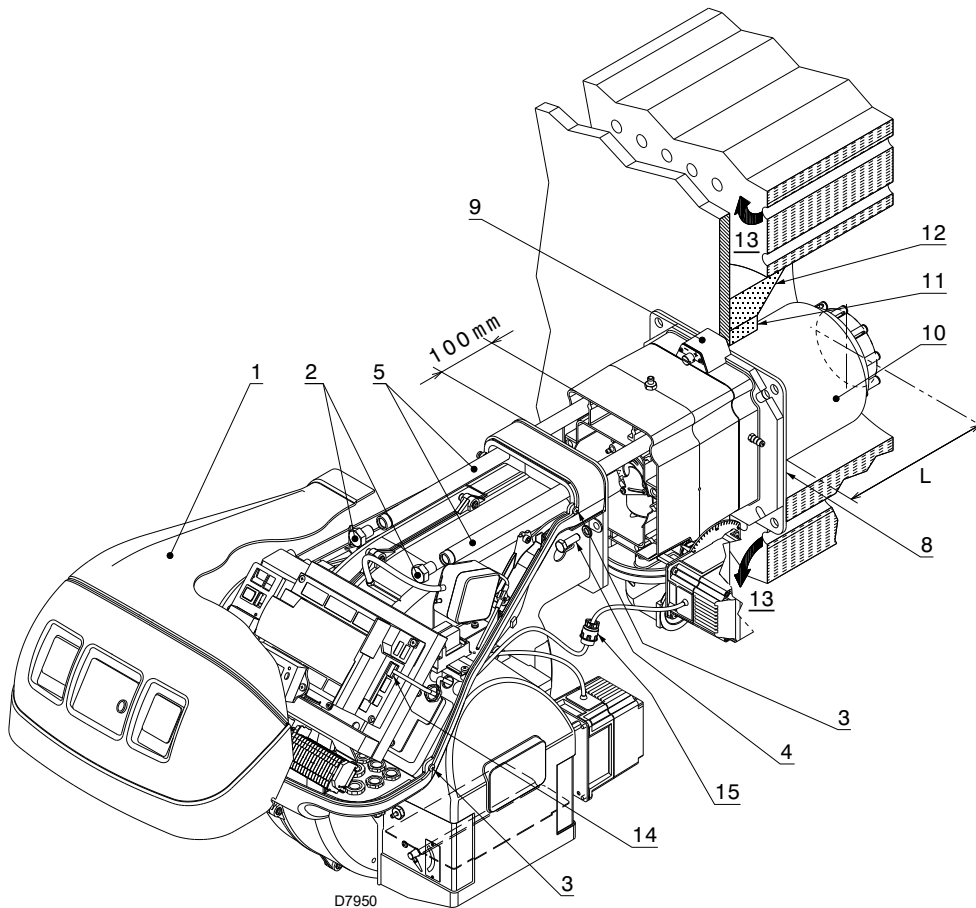

Fig. 17
For boilers with front flue passes 13)(Fig. 17 at page 24), or flame inversion chambers, a protection in refractory material 11) must be inserted between the boiler refractory 12) and the blast tube 10).
Separate the combustion head from the rest of the burner, as in Fig. 17; proceed as follows:
- reassemble the burner on the guides 3) at about 100 mm from the pipe coupling 4) - burner in the position shown in Fig. 17;
- connect the plug of the servomotor 14)(Fig. 17) and tighten the grommet 15);